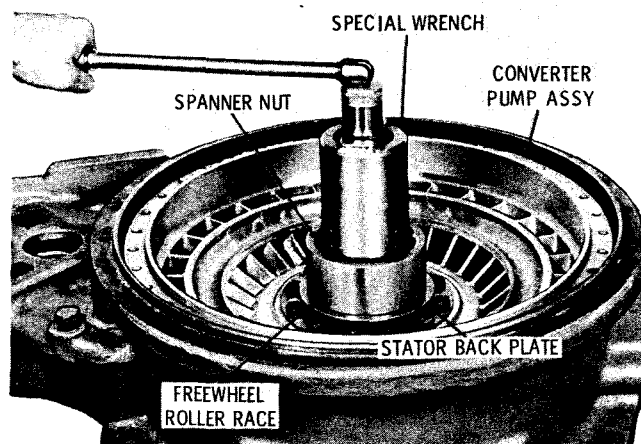
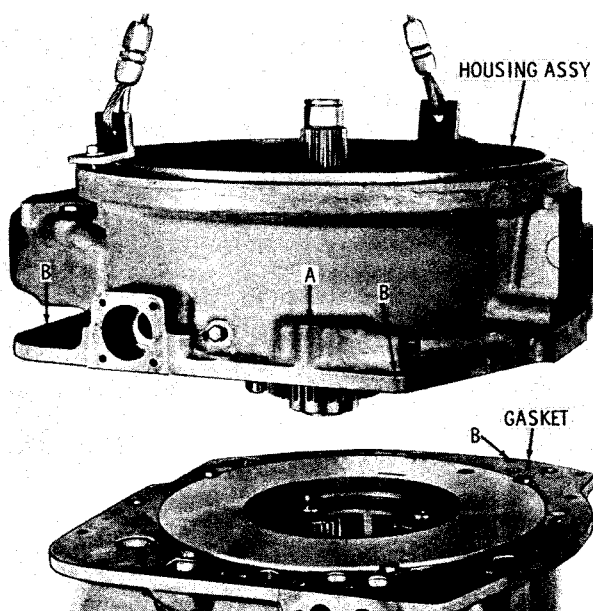

Fig. 5-18. Removing spanner nut from ground sleeve
Fig. 5-19. Removing converter housing assembly
(11) Straighten the lip of the spanner nut which is locked into recesses in the free-wheel roller race (fig. 5-18).
(12) Using a special spanner nut wrench, remove the spanner nut (fig. 5-18). Remove the freewheel roller race and stator back plate.
(13) Remove the converter pump assembly (fig. 5-18). Refer to paragraph 6-12 for rebuild procedures.
(14) Remove three nuts 14 (B, foldout 10), lock washers and bolts that retain the torque converter housing (nuts are on the rear side of main housing flange). Remove the single bolt 50 (C, foldout 5) and lock washer that are at the upper-left front of the converter housing. Remove fifteen bolts 16 (B, foldout 10) and lock washers that are at the rear of the transmission housing front flange.
(15) Remove the torque converter housing assembly (fig. 5-19). Remove the gasket.